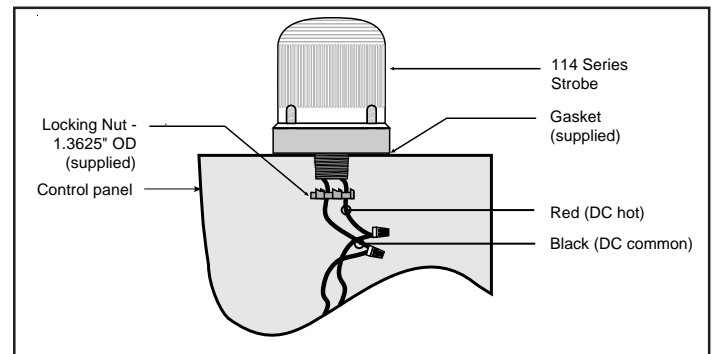

Figure 2. Panel Mounting
Panel Mounting (Figure 2)
3. Using wire nuts (not supplied), connect the signal's wire leads as shown in Figure 2. Polarity must be observed.
Panel Mounted Modules: Disconnect wiring and remove locking nut securing the base to the panel (Figure 2).